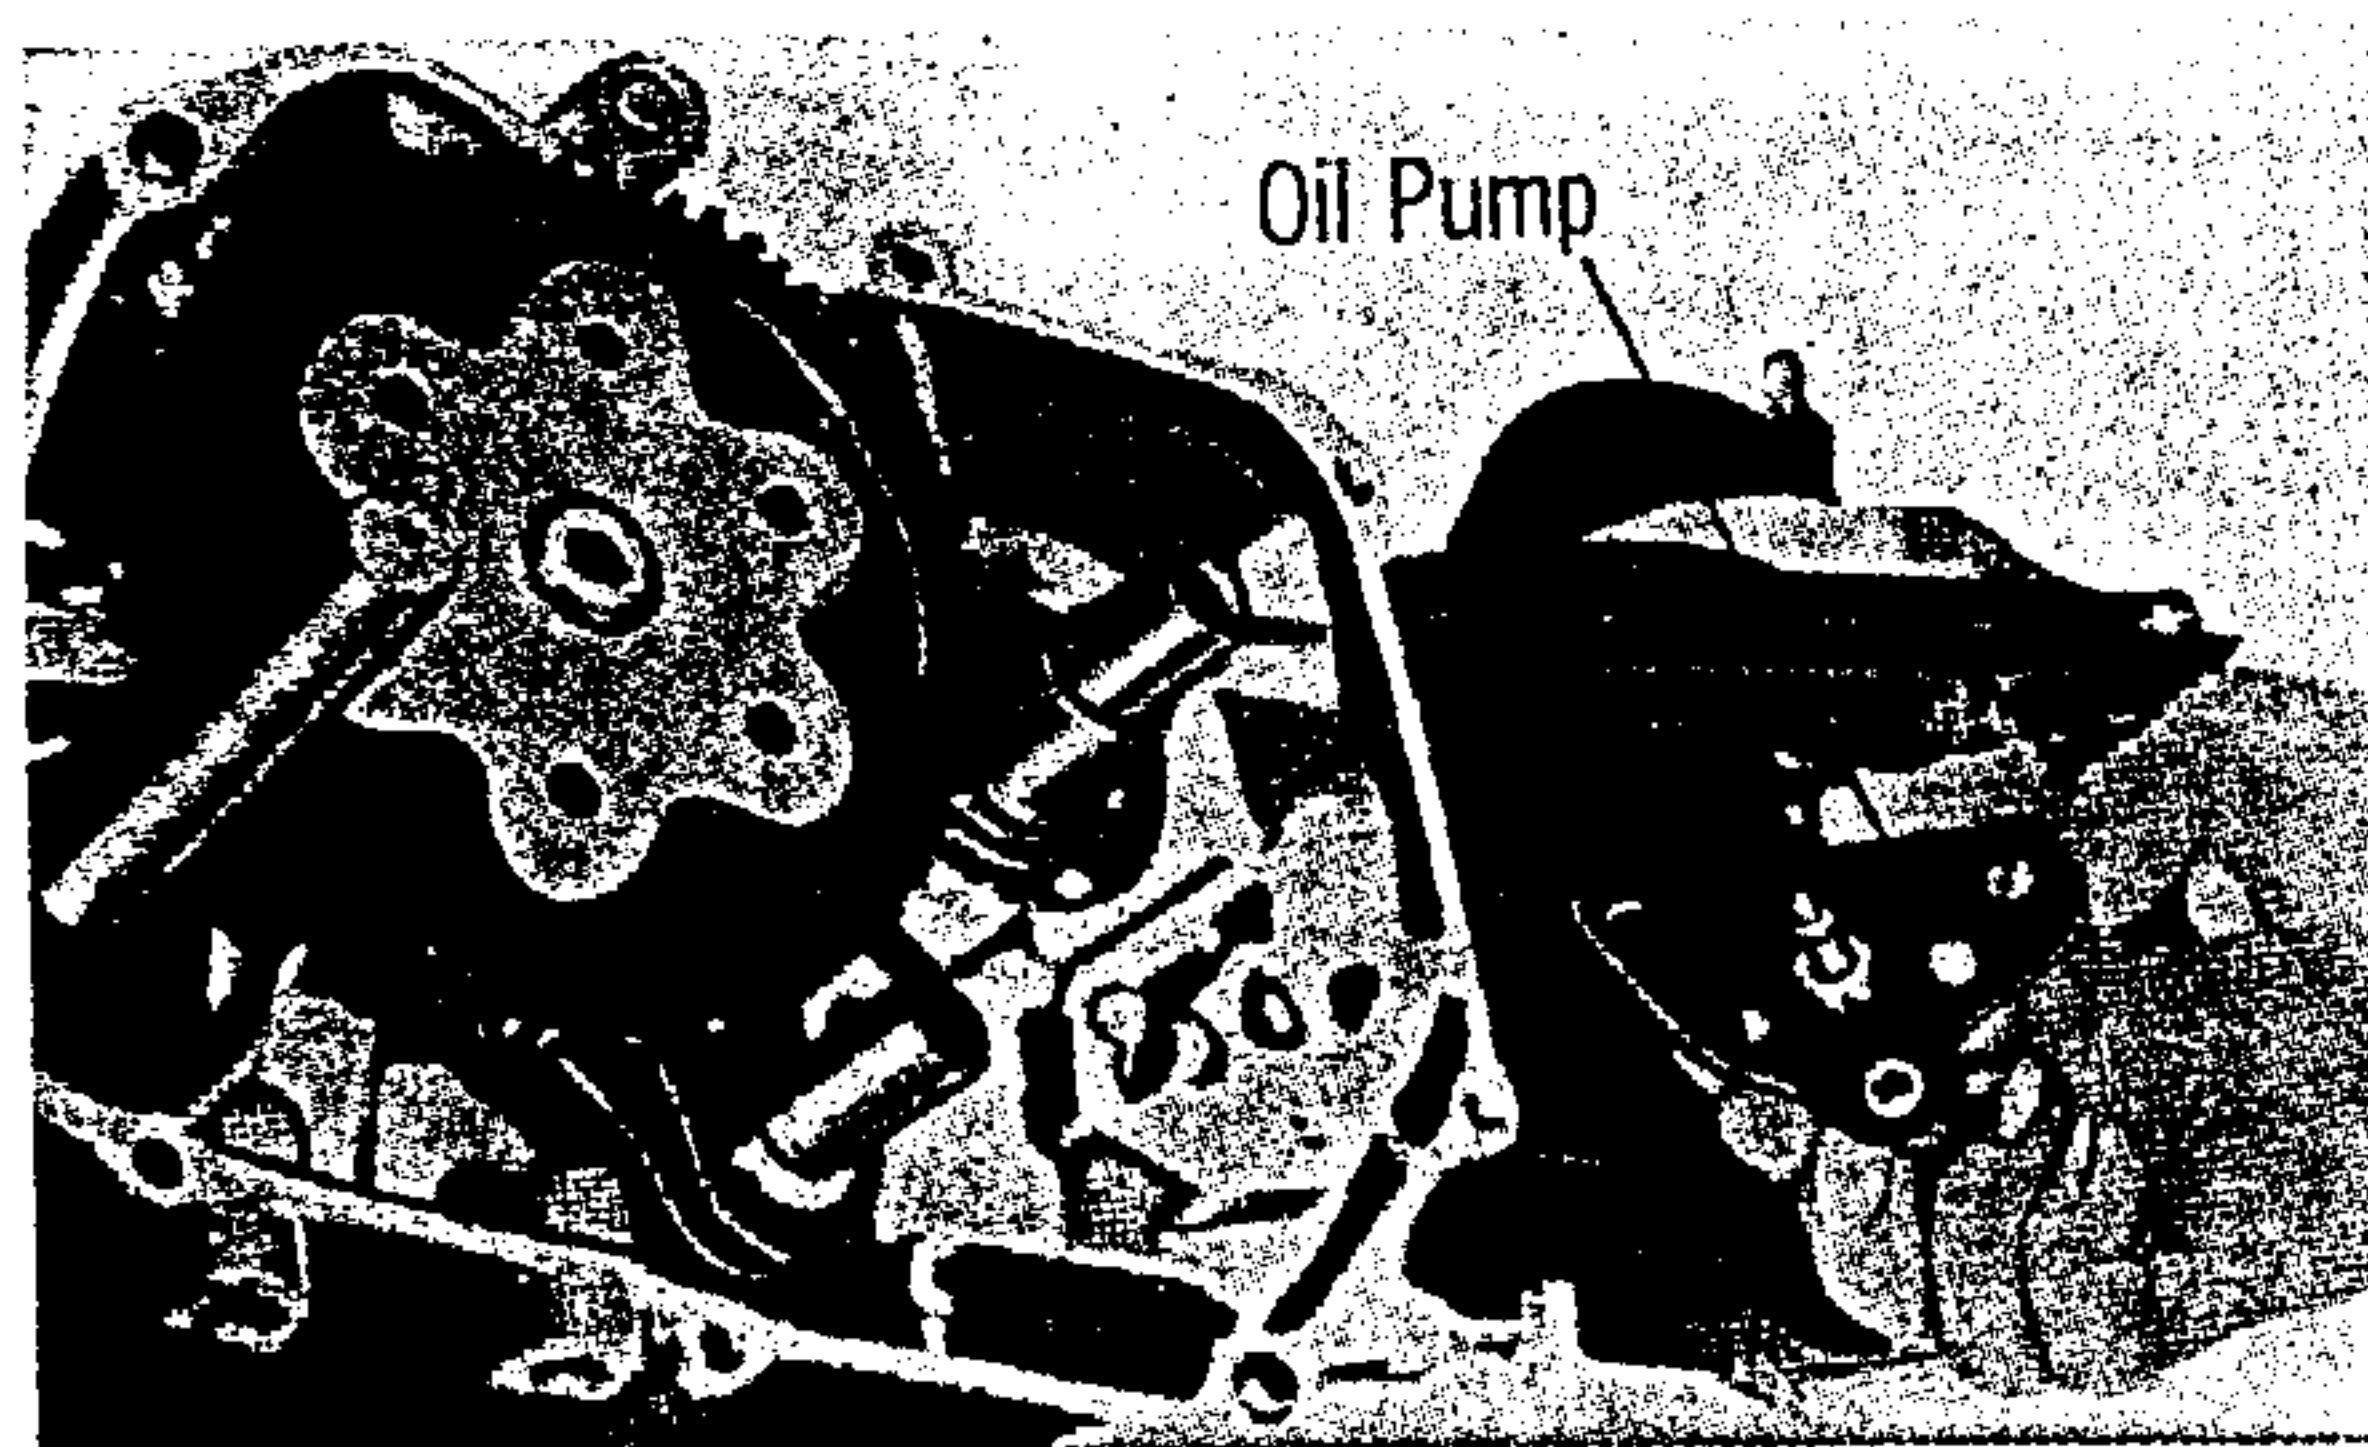

Fig. 9
5. Loosen the three cross screws attaching the oil pump cover. The oil pump can then be disassembled (Fig. 9).